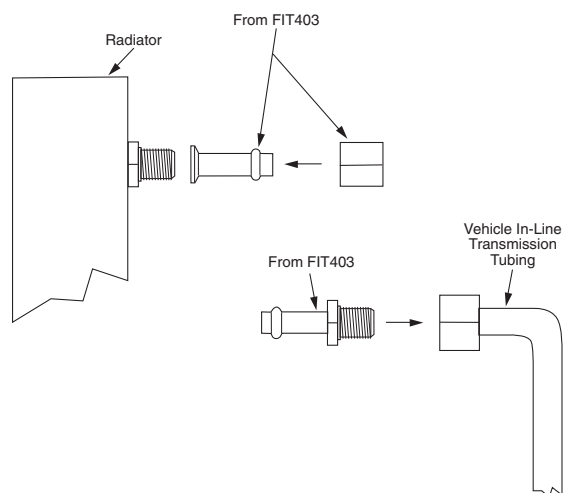

Figure 55. FIT403 Installation on some Dodge Ram
The quick connect fitting in the Dodge Ram transmission cooling line (at the radiator) requires a removal tool that is not supplied. The FIT403 male fitting goes on the end of the steel line and the female fitting goes on the radiator (see Figure 55).
2. Insert the small FIT403 fitting into the receptacle and continue pushing until the plastic clip in the receptacle engages the fitting (see Figure 55).
3. Insert the large FIT403 fitting onto the transmission cooling line (see Figure 55).